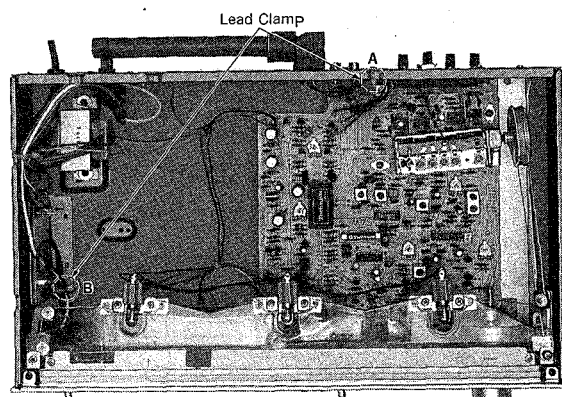

Fig. 3
5. Cut off 2 leads at lead clamps (A and B in Fig. 3, part No. SHR301).